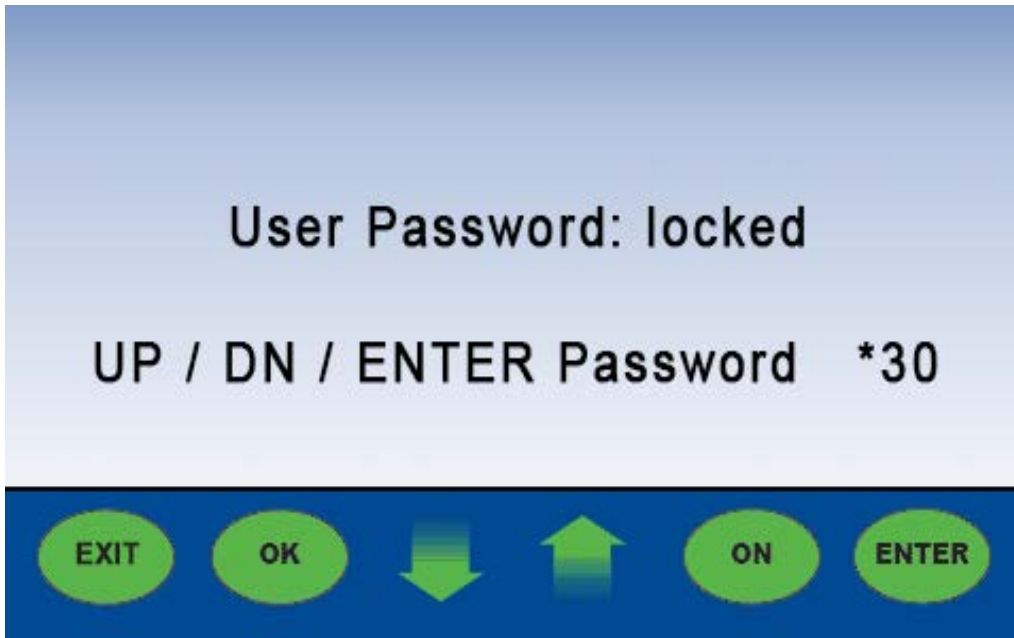

Figure 69
3. Press the **enter button**; a (*) is inputted into the field for the first digit; the second number will begin to blink (**Figure 69 on page 121**). Next, press the **up arrow** to assign the second number.